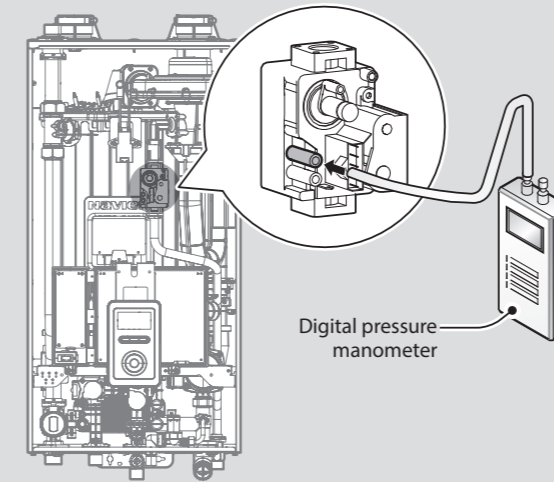

Figure 8. Connect Digital Pressure Monometer
- Open the offset pressure port by loosening the screw two turns as shown in Figure 8.